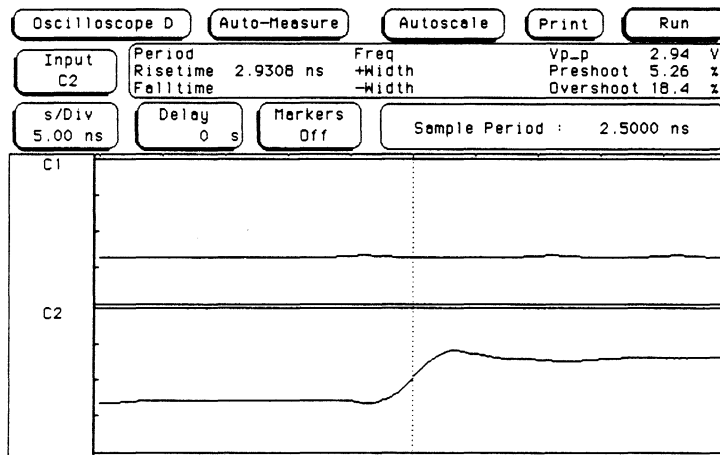

Figure 4-34. Square Wave Response
- n. Adjust R95 for flattest square wave response. Allow a few seconds for averaged display to stabilize. See figure 4-34.